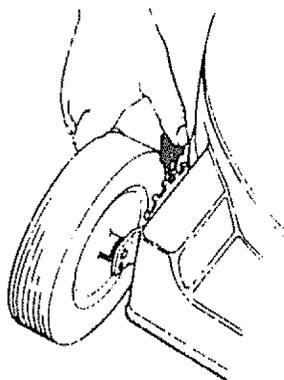

FIGURE 7.
- To change cutting height, squeeze adjuster lever toward wheel. See figure 7. Move wheel up or down to suit your requirements. Be sure all wheels are in the same setting.